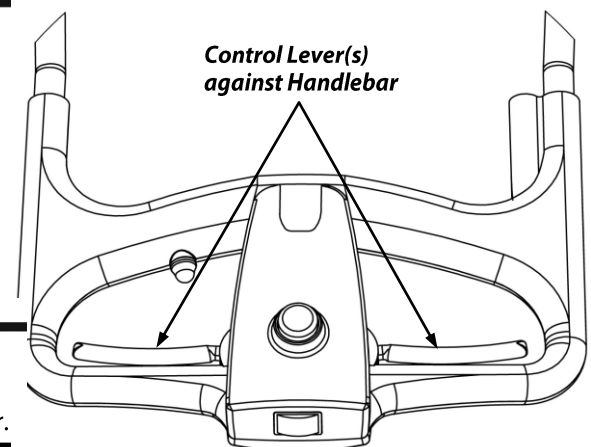

Figure 24
2. Squeeze and hold the orange Control Lever(s) (**Figure 24**).